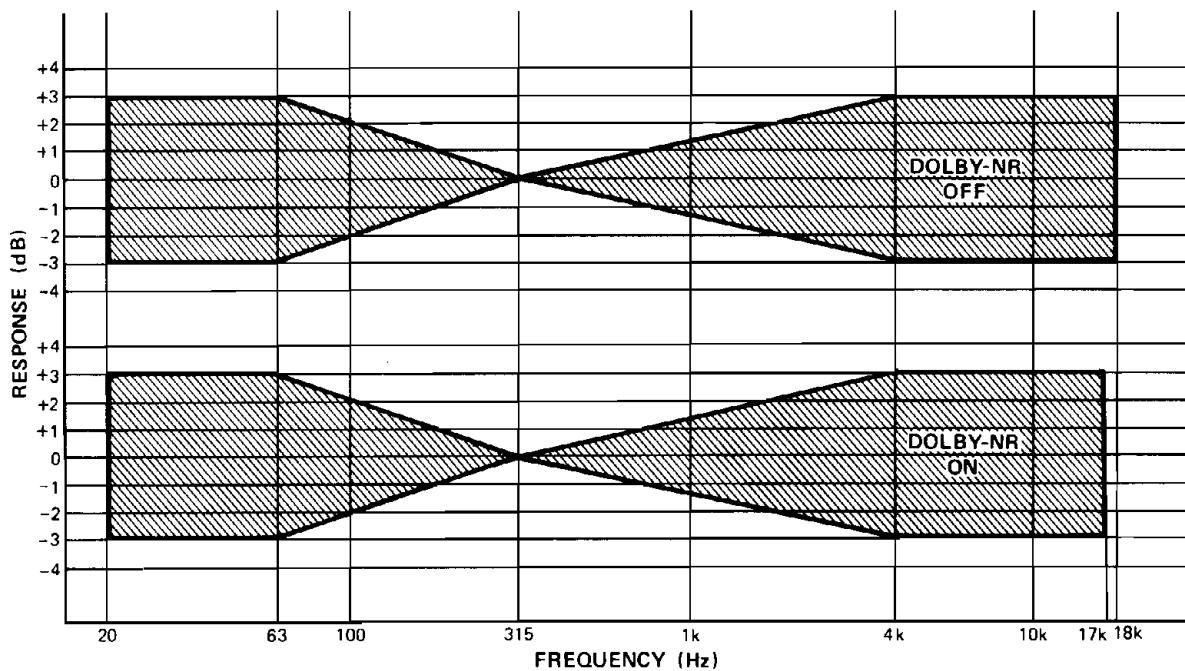

Fig. 4 — Low Noise
12. If the above frequency response is not within the shaded DOLBY-NR OFF area of Fig. 4, adjust VR303 (left) and VR304 (right) slightly. Repeat steps 10 and 11 until playback frequency response on the V.T.V.M. 2 is adjusted within the DOLBY-NR OFF range as shown in Fig. 4.
13. Set Dolby NR switch to ON position and check if frequency response is within range of DOLBY-NR ON section of Fig. 4, if not repeat DOLBY-NR OFF procedures.